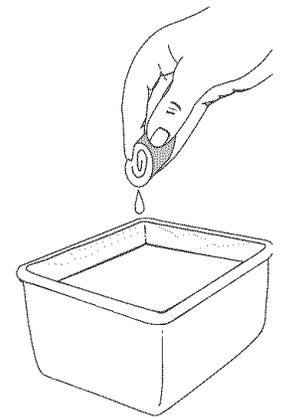

Fig. 14
3. Wash the filter in detergent and water (Fig. 14). Rinse the filter thoroughly. Squeeze out excess water. Allow it to dry completely.